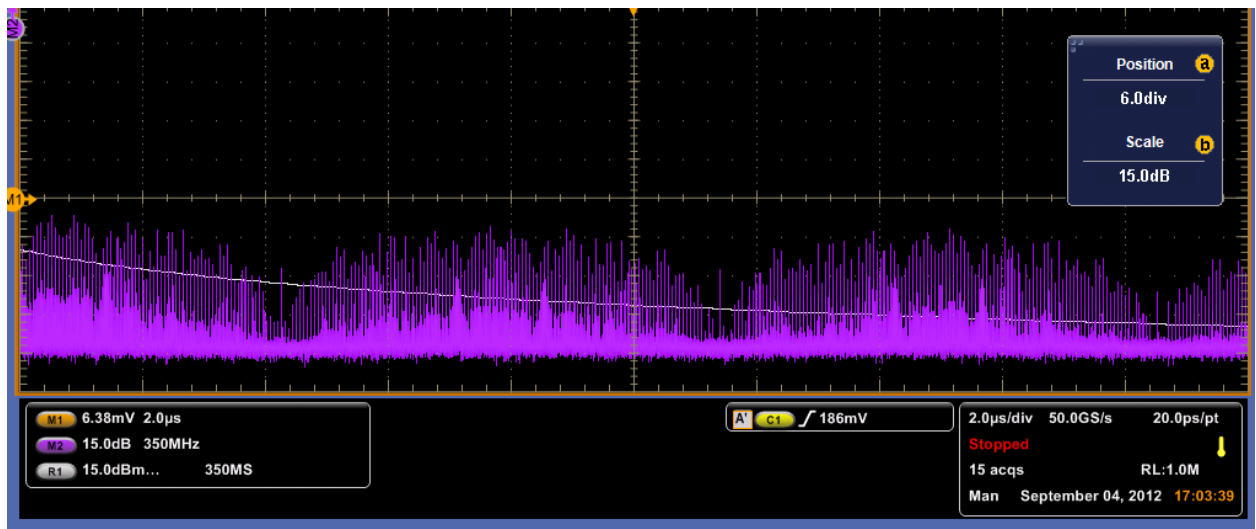

Figure 6-2: PSD
5. Click Single to capture and run the measurements. Expect a result shown in Figure 6-2 below.
6. The result example in the Figure 6-2 is for a Gear1A signal. In this the pre-created Gear1A limit file is loaded on the Ref1 (white line in the Figure).